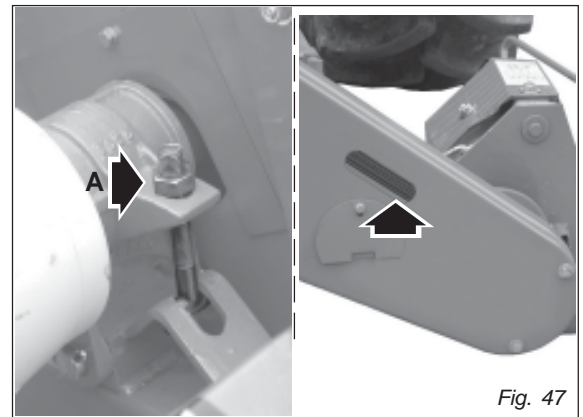

Fig. 47
- Adjust belt tension periodically by adjusting nut (A, Fig. 47). Check tension via the viewing panel on the belt guard. Belt slack must not exceed 1 inch. It is essential to close the inspection hatch with the relative lid after the belts have been examined.